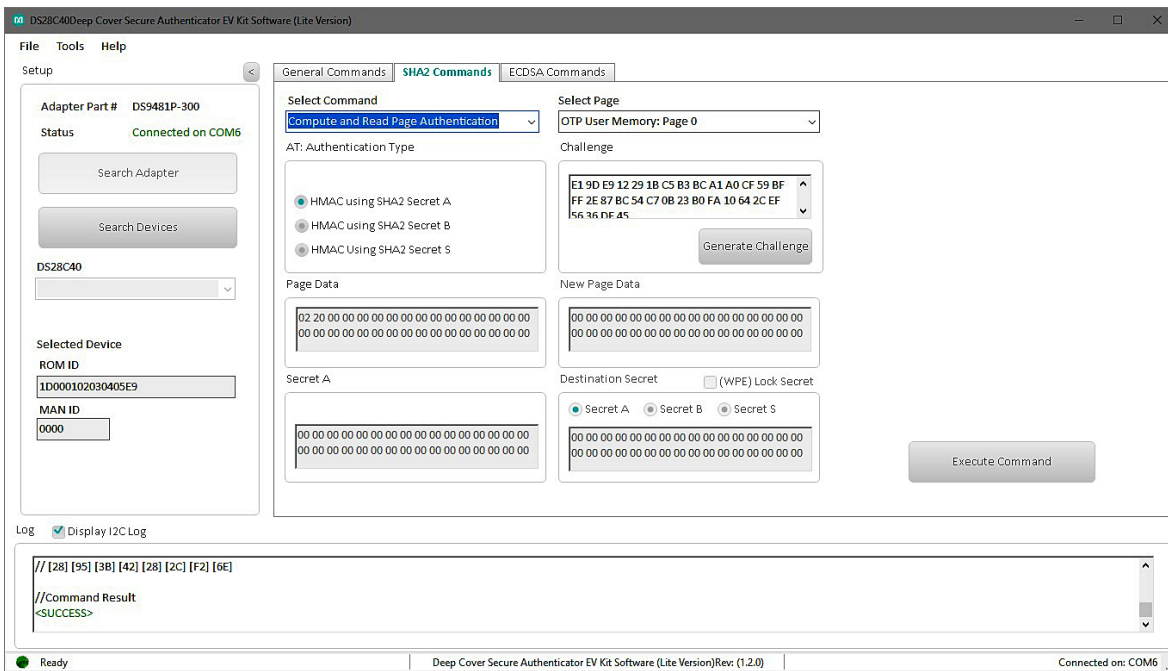

Figure 19. Selecting SHA2 Command
- 5) Select the **Compute and Read Page Authentication** command from the **Select Command** drop-down menu selection (Figure 19).